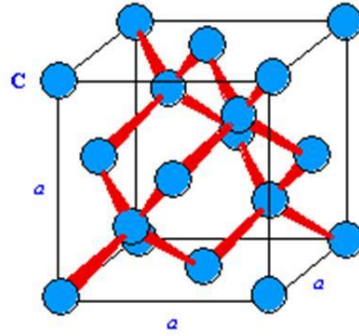

Figure 1: Silicon crystal structure
- a. Compare the conductivities between Silicon and Copper at 300°K as calculated from Question (1) and (2) above. Give a reason for the cause of the result of your comparison. [5 marks]
4. A unit cell of the crystal structure of Silicon is in Figure 1 shown below. It is given that the side length of this unit cell is 0.357 nm.